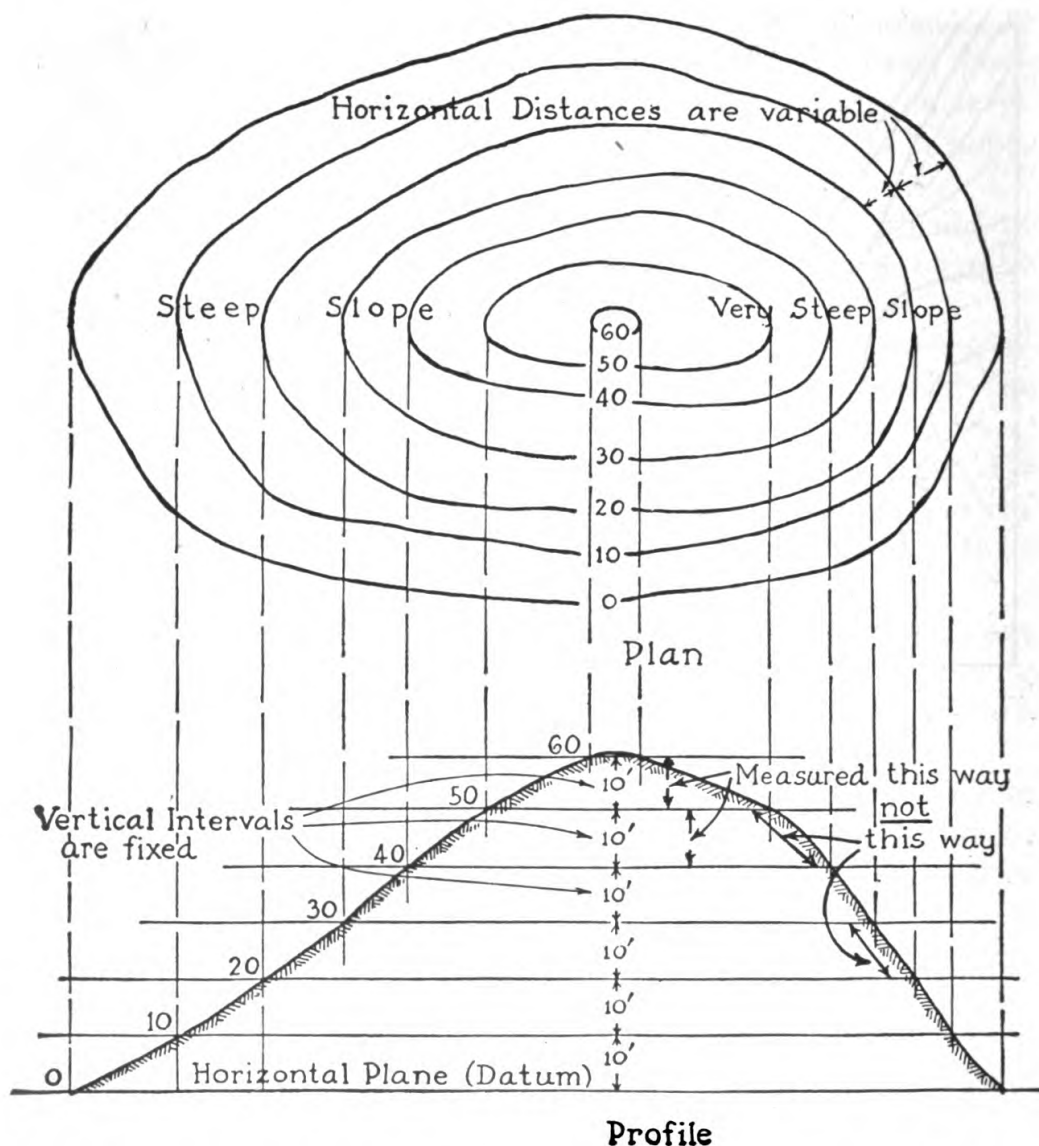

FIGURE 148.—Plan and profile of a hill. (Contours are the lines that would be left on the ground by successive horizontal slices, 10 feet thick.)
Q. Give a simple method of making a profile. *A.* To make a profile of the hill shown in figure 148, along the line of the words "Steep slope, Very steep slope," draw a number of parallel lines at uniform intervals, as in the lower figure, numbering them at 10-foot intervals from 0 to 60 feet (the limiting elevations of the hill). Mark each point where a contour cuts the line "Steep slope," and project these points vertically down to the correspondingly numbered lines. Join the points thus found by a line. It will be the contour of the hill on the line "Steep slope."